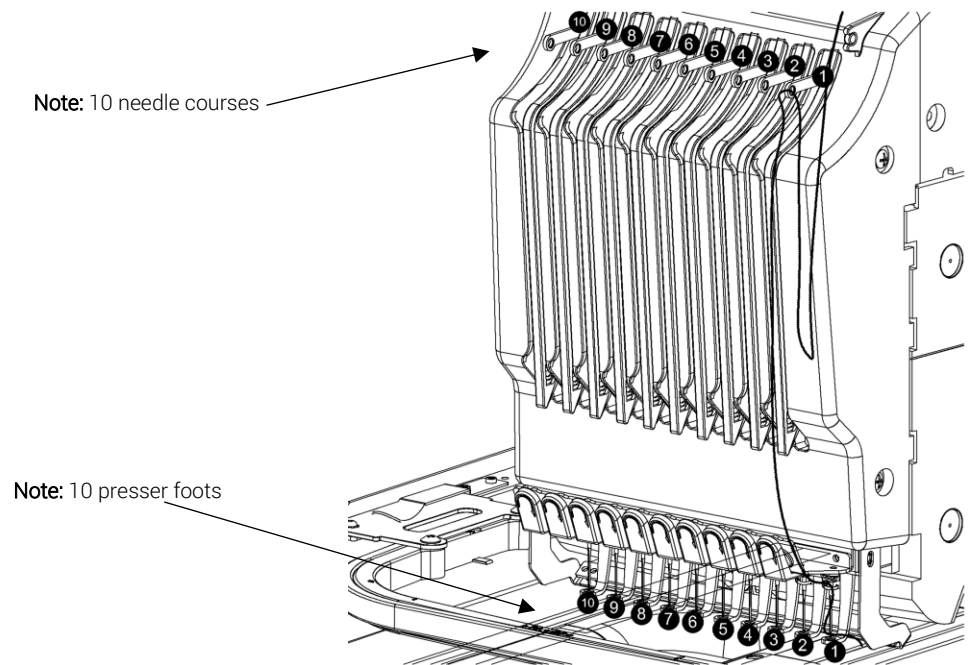

Figure 52
20. Insert the thread through the open gap. See Figure 52.